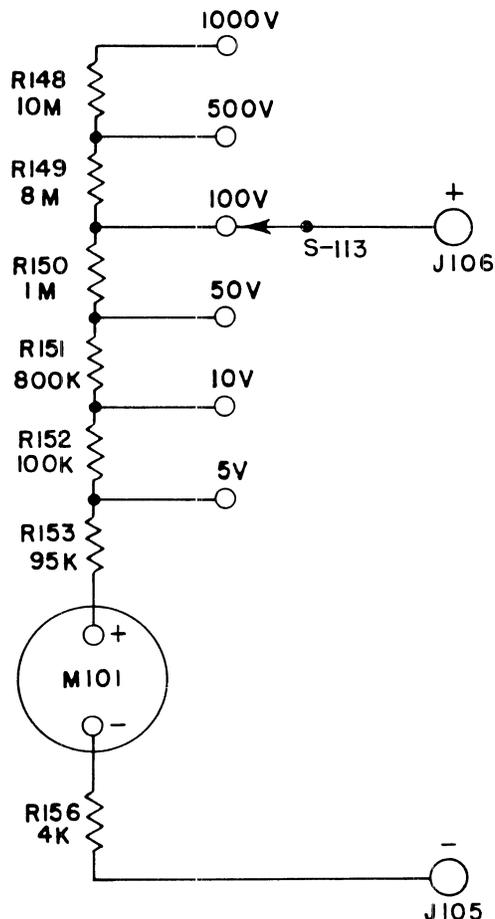
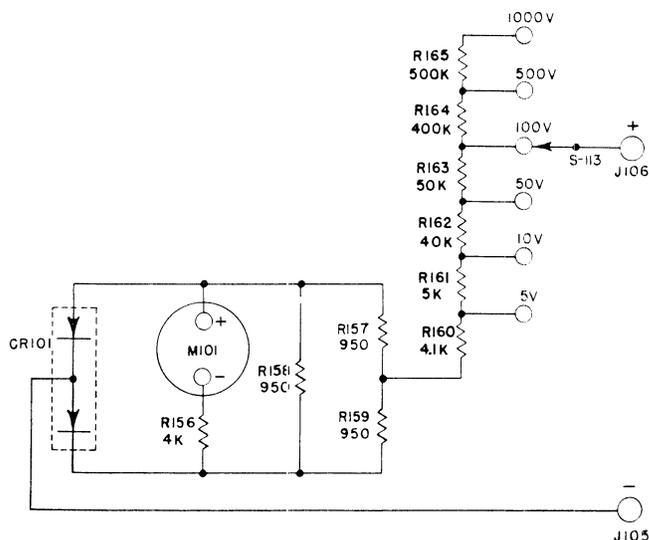
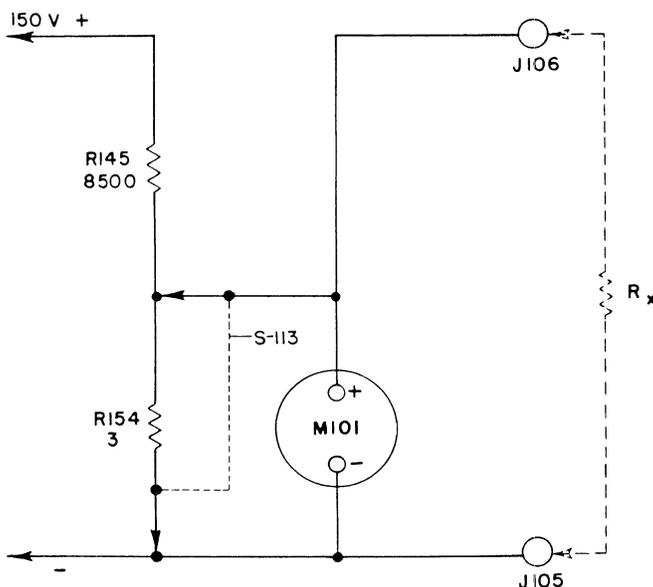

Figure 2-9. Simplified DC Voltmeter Circuit
Figure 2-10. Simplified AC Voltmeter Circuit
Figure 2-11. Simplified Low Range Ohmmeter Circuit
a. VOLTS DC (See figure 2-9)
- (1) The dc voltmeter circuit consists of the METER M-101 and a series of multiplier resistors, R-148 through R-153. Resistor R-156 raises the basic resistance of the meter circuit to the value necessary for operation in the multimeter circuits.
- (2) With the FUNCTION selector switch S-114 in the DC VOLTS position test jacks J-105 and J-106 are connected to the meter circuit through RANGE selector switch S-113 which selects the proper tap in the multiplier resistor series for the voltage to be measured.
- (3) The sensitivity on the dc ranges is 20,000 ohms per volt.
b. VOLTS AC (See Figure 2-10)
- (1) The circuit for ac voltage measurements consist of the METER M-101, copper oxide rectifier CR-101, and resistors, R-156 through R-159, wired as a bridge circuit as shown in Figure 2-10.
- (2) When the FUNCTION selector switch is set at the AC VOLTS position the potential to be measured is connected to the bridge circuit through the RANGE selector switch S-113 which is used to select the proper tap on the series of multiplier resistors, R-160 through R-165.
- (3) The sensitivity of the multimeter on the ac ranges is 1000 ohms per volt.
c. OHMS (See Figures 2-11, 2-12 and 2-13)
- (1) The low range, 3 OHMS AT CENTER SCALE.
- (a) With the FUNCTION selector set for OHMS and the RANGE selector set for 3 OHMS CENTER SCALE the circuit shown in Figure 2-11 is established.